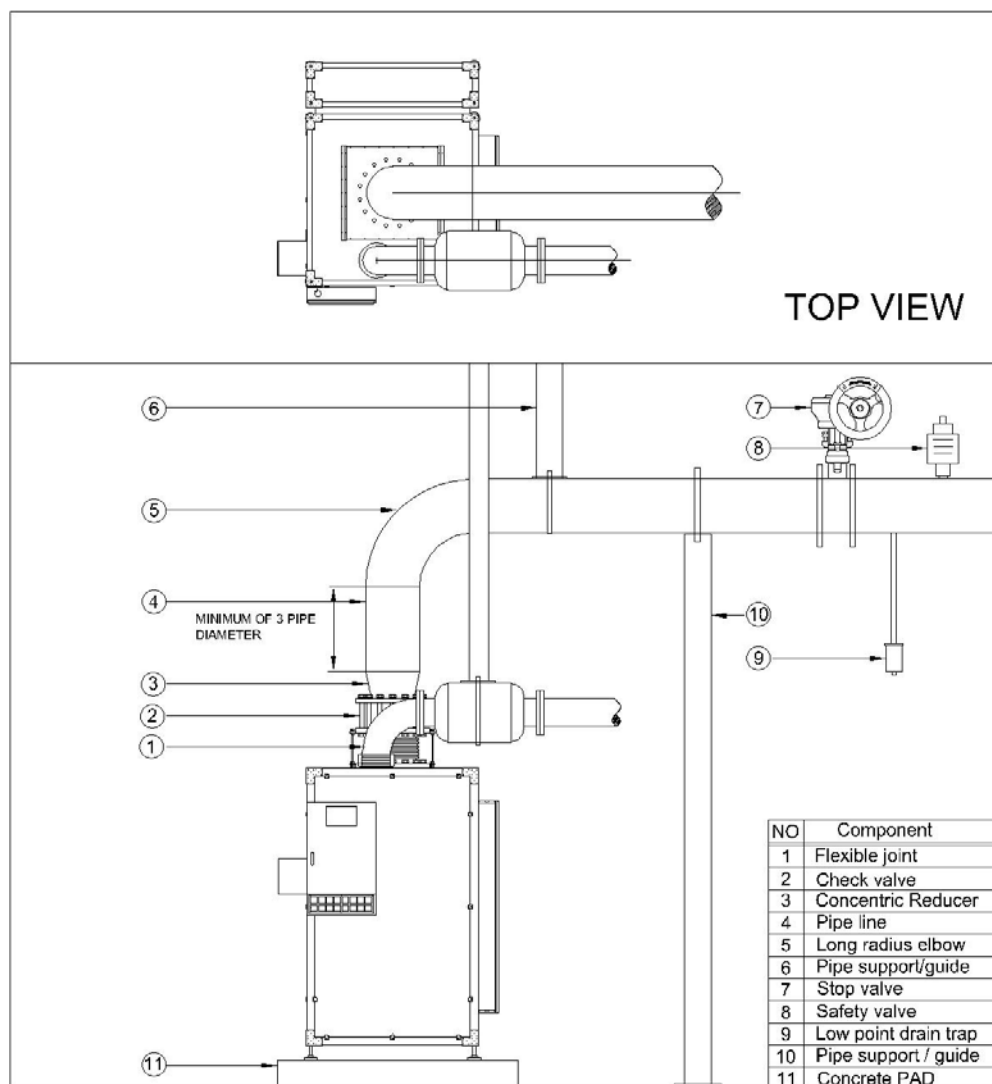

Figure 4–7. Discharge Piping Example
4.5.3.1. Install discharge accessories in accordance with Figure 4–7. Discharge components may include expansion joint, check valve and isolation valve. Verify gaskets are properly inserted at this time.